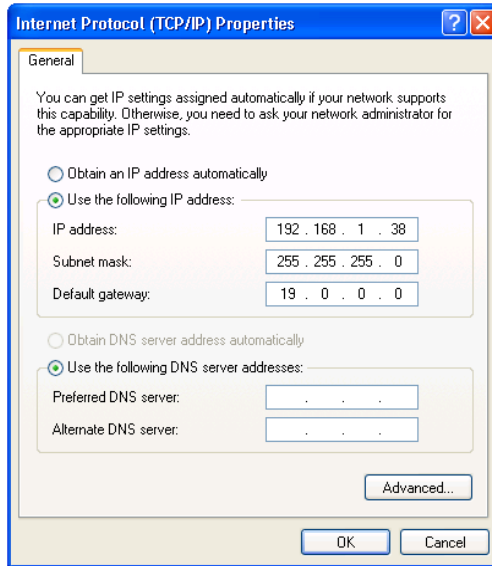

Figure 9: Internet Protocol (TCP/IP) Properties Window
7. Select **Use the following IP address**, and fill in the details as shown in Figure 9.